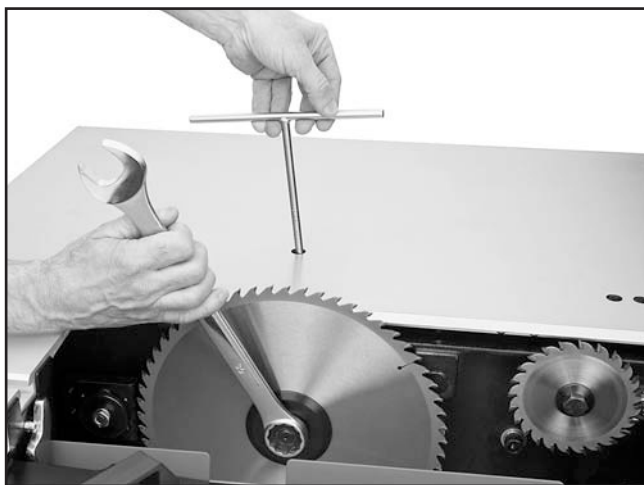

Figure 15. Installing main blade.
4. Slide the saw blade over the arbor with the teeth facing to the right, then re-install the flange and arbor nut while holding the arbor steady with the T-handle wrench, as shown in **Figure 15**.